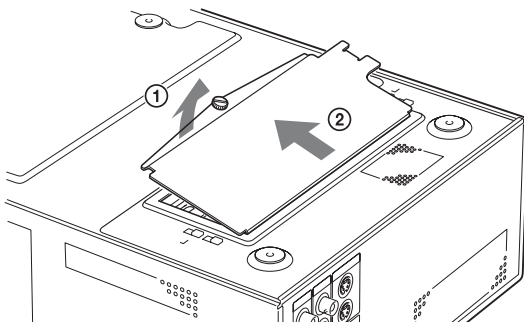

Figure 4.6
- 4** Pull the back cover plate up and remove it from the main body (see Figure 4.6).